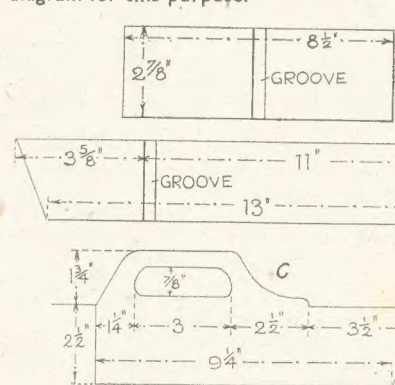

Fig. 1—Shape and dimensions of parts
The outlines of the ends and sides are shown at (A) and (B) in Fig. 1 while the centre division, with handle, is shown at (C) in the same figure. Draw the outlines of these parts on to the wood and cut round with a coarse blade fretsaw. Then clean up the cut edges with glasspaper. See the sloping ends of pieces (B) are identical by putting them together and checking them.
The handle partition, (C) Fig. 1 is next drawn out and cut. Note the handle extension piece at the top and its end shaping. There should be no difficulty in drawing the correct shape either direct on the wood or on to paper ready for transference by carbon to the wood. The full measurements shown should make the work easy for copying.